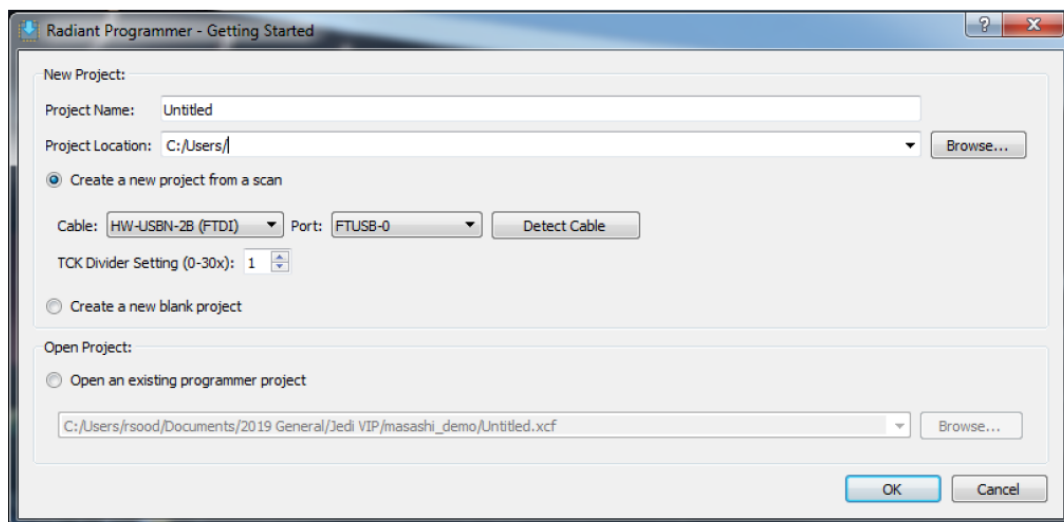

FIGURE 4. STARTING PROGRAMMER
1. Power on the board with the **JP4** inserted. **Once the board is ON remove the JP4** start a programming project by launching the Lattice Radiant tool and initiating a board scan, as shown in Figure 4.